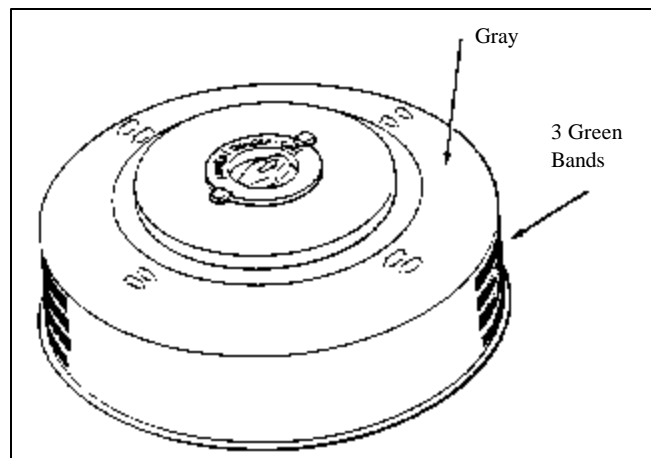
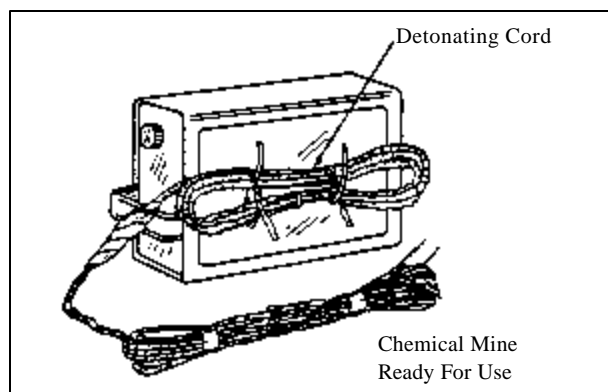

Figure 72. U.S. chemical land mine, M23, VX.
Figure 73. U.S. 1-gallon land mine, HD.
- (d) Chemical mines produce casualties by blast and by toxic agents. The two U.S. chemical mines are the M23 (shown in Figure 72) and the one-gallon gas mine (shown in Figure 73).